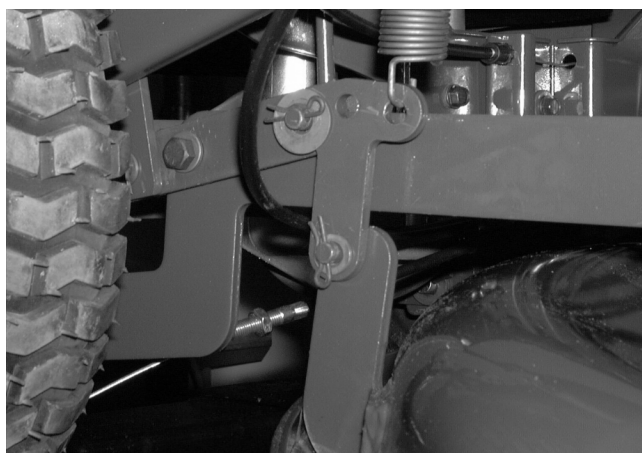

FIGURE 1.
- 8). Make certain the lower "T" links are mounted to the rider correctly. See figure 1.